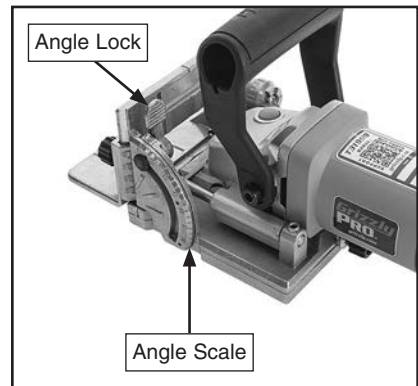

Figure 12. Location of cutting angle adjustment components.
1. Release angle lock (see **Figure 12**).